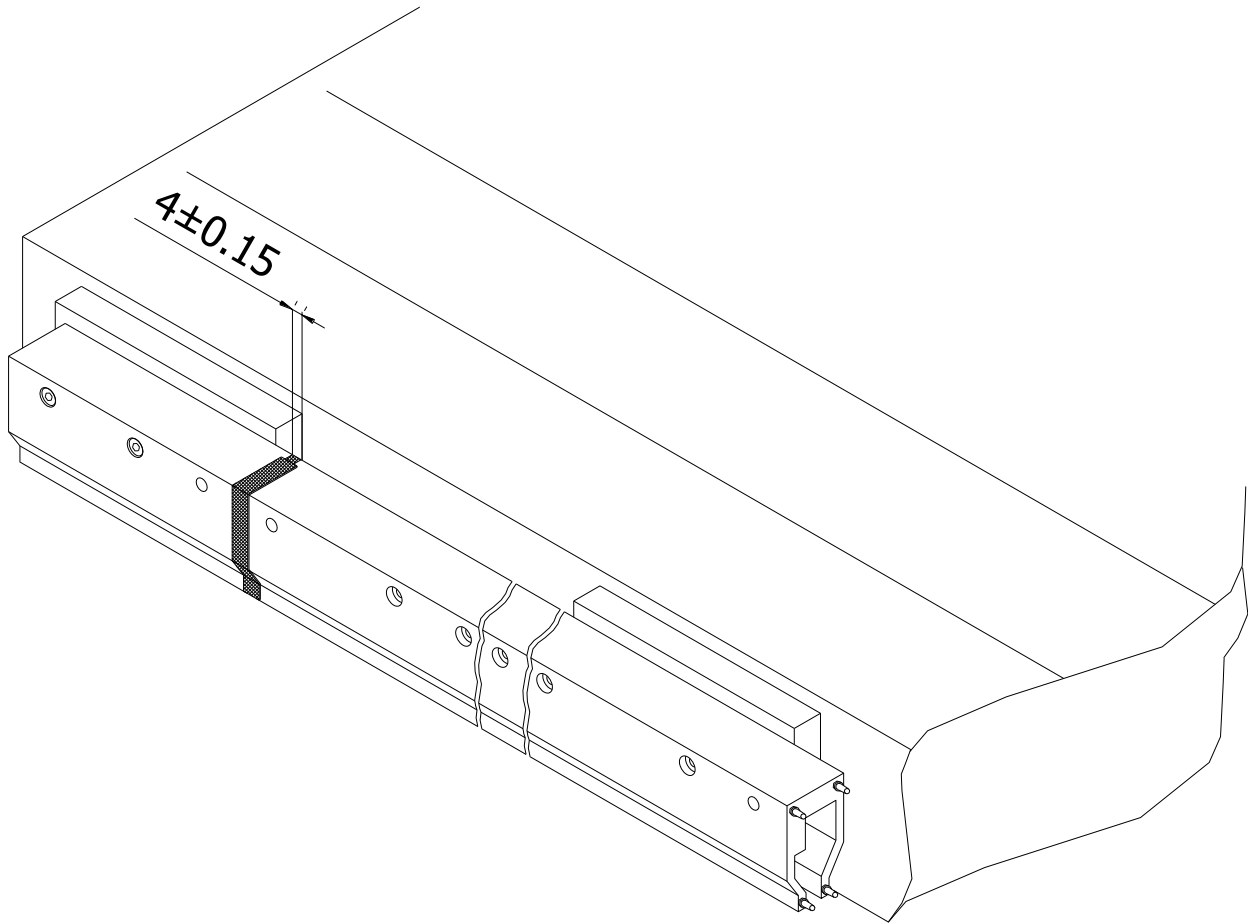

Figure 2.9
- Verify that the junction seal adheres properly to the segments (see Figure 2.9).
- Tighten the M5x50 (55) screws with a torque of 5 Nm.
Note: The junction seal protects the optical scale from dust and liquids. The best performance is obtained with a distance of 4 ± 0.15 mm between segments, as indicated in Figure 2.9.